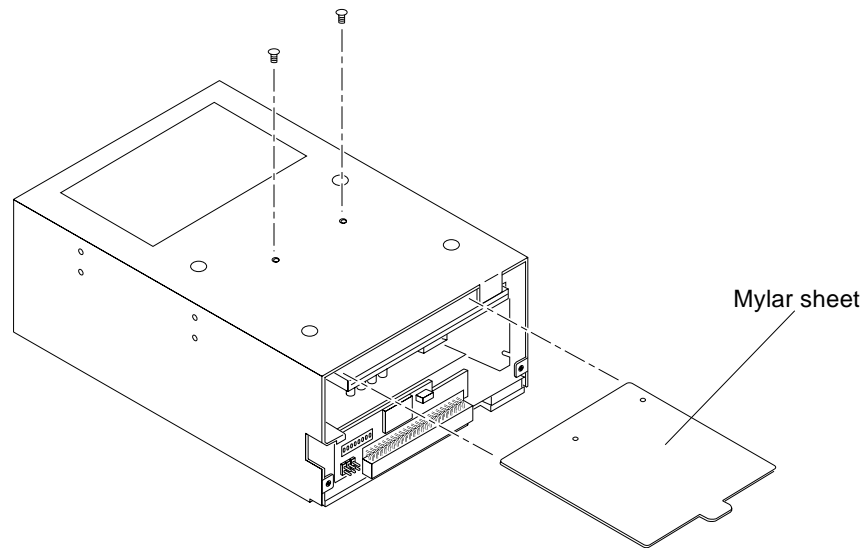

Figure 1 Removing the Mylar Sheet from the Auto-Loader
1. **Turn the auto-loader upside down and remove the two screws that secure the mylar sheet to the auto-loader. See Figure 1.**
2. **Grasp the clear plastic tab at the rear of the auto-loader and pull the mylar sheet out of the unit. See Figure 1.**